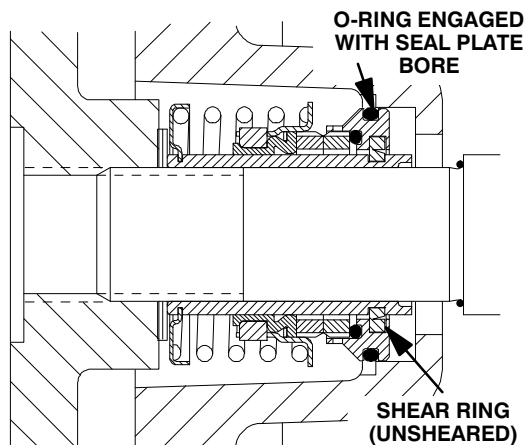

Figure 9. Seal Partially Installed
Clean and inspect the impeller as described in **Impeller Installation and Adjustment.** Install the full set of impeller shims (2) provided with the seal and screw the impeller onto the shaft until it is seated against the seal (see Figure 9).